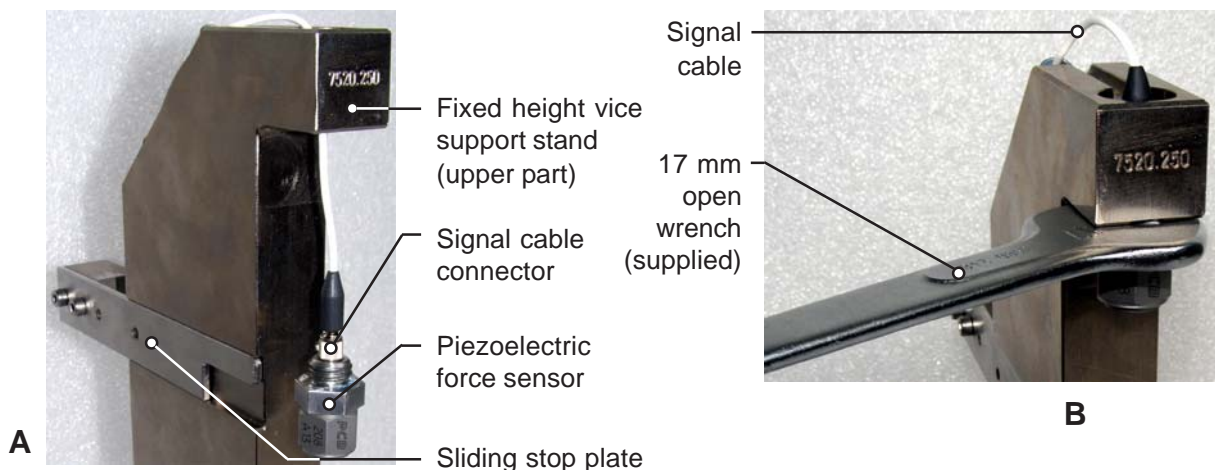

Fig. 2 - Piezoelectric force sensor assembly
- ▶ c) Screw the force sensor to the sensor cable (Fig. 2 A).